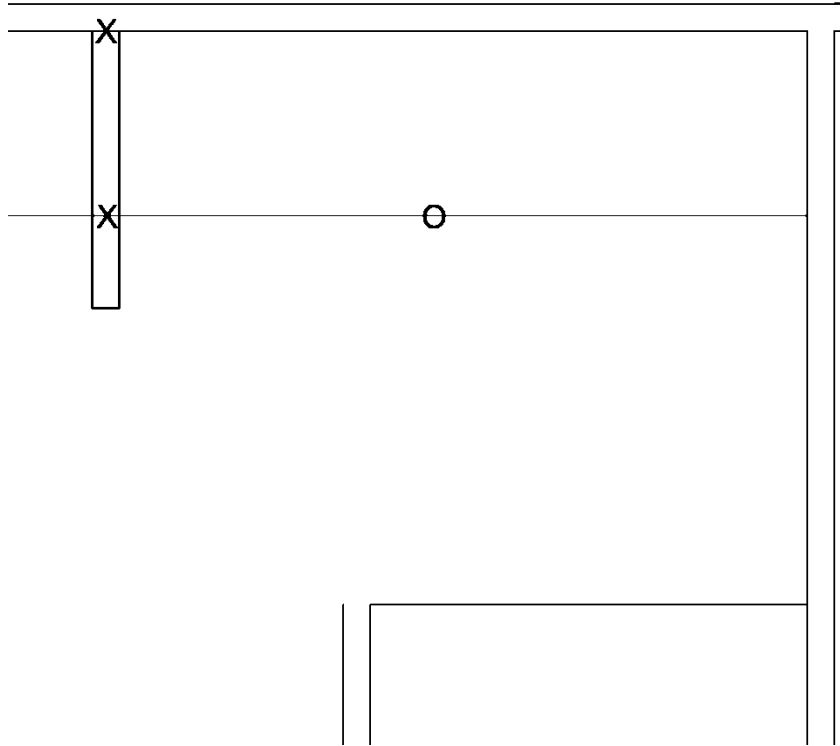
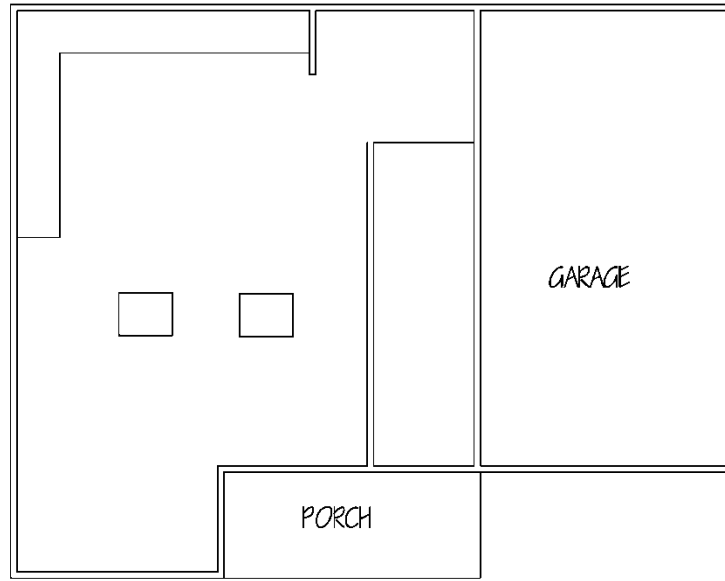

Fig 1-19
Fig 1-20
Click on the **Offset** button. Type **3.5 <e>**. Click on the line that we just drew and click to the left of it to create a new short wall. At the bottom connect the ends to create the wall end as in **Fig 1-19** (use the Line button).
**Trim** the lines at the **X**'s in **Fig 1-19** (you must press enter right after you click the trim button or it will not work as a trimming tool). Escape and **erase** the line marked with an **O**. It will now look like Fig 1-20.
Click on the empty space somewhere in the middle of the living space (see Fig 1-20). Look at the command line. It prompts for a response (Area/Dimensions/Rotation). Do not move the mouse—your typing will automatically be entered into the Command line window. **Type d <e>. Type 30 <e>. Type 24 <e>. Click** (this last click sets the rectangle in place). **Make a copy** of the **rectangle**—so we have two as in Fig 1-20. Read the prompts as you follow these instructions. The **d** selects the **Dimensions** option (this is the most common method to create a rectangle). Then the numbers you enter are the dimensions (with the horizontal dimensions first, then the vertical).